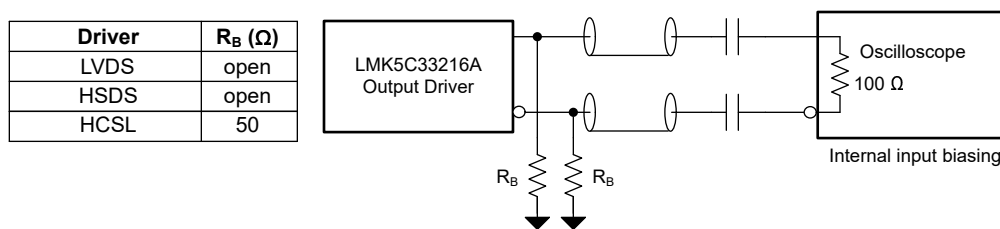

Figure 3-10. Output Termination Recommendations
1. Make sure all required outputs have proper termination components installed to match the desired output types. Figure 3-10 shows the recommended output terminations for each output format.